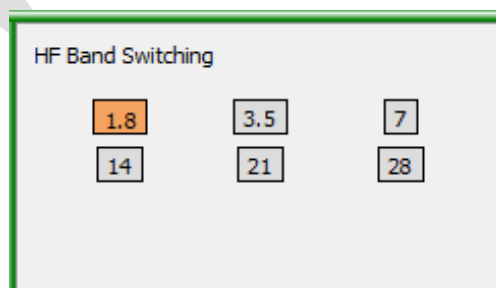

Figure 47 – HF Band Switching
3.4.1.1 Multi-band (HF) Contests
For multi-band (HF) contests the screen layout will have to be modified (see Section 3.5) to display the ‘**HF Band Switching**’ panel (Figure 47). The orange button shows the currently active band.